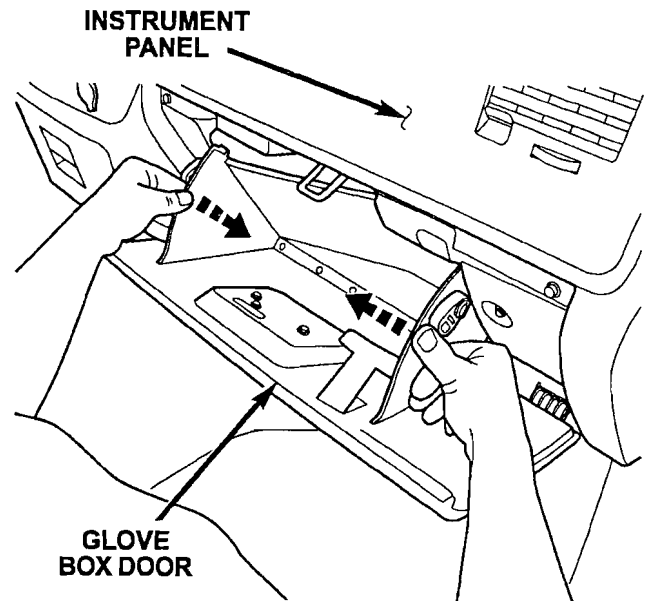

Figure 1
3. Remove the glove box assembly from the instrument panel by squeezing the sides inward and rolling the door downward (Figure 1).